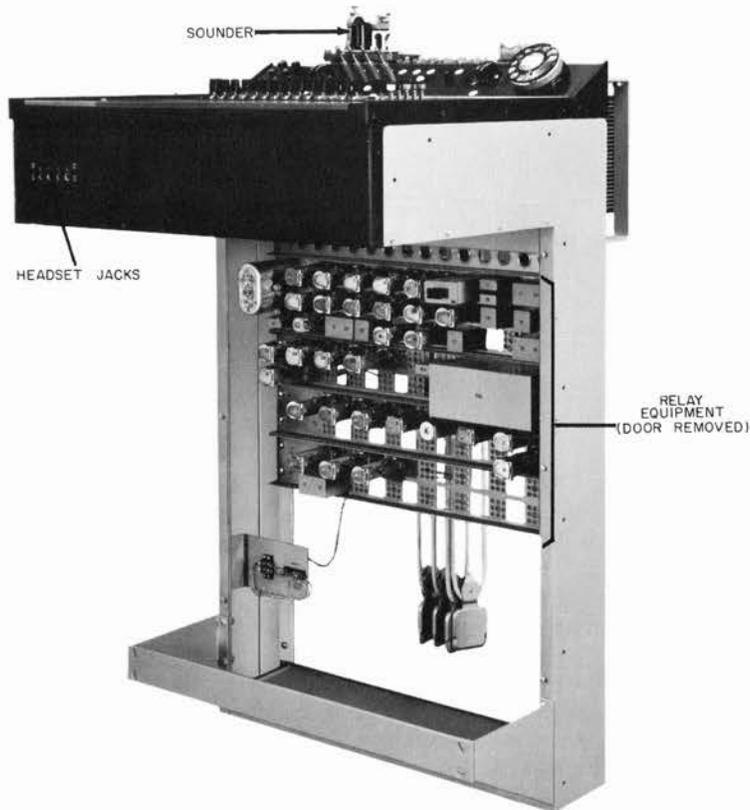
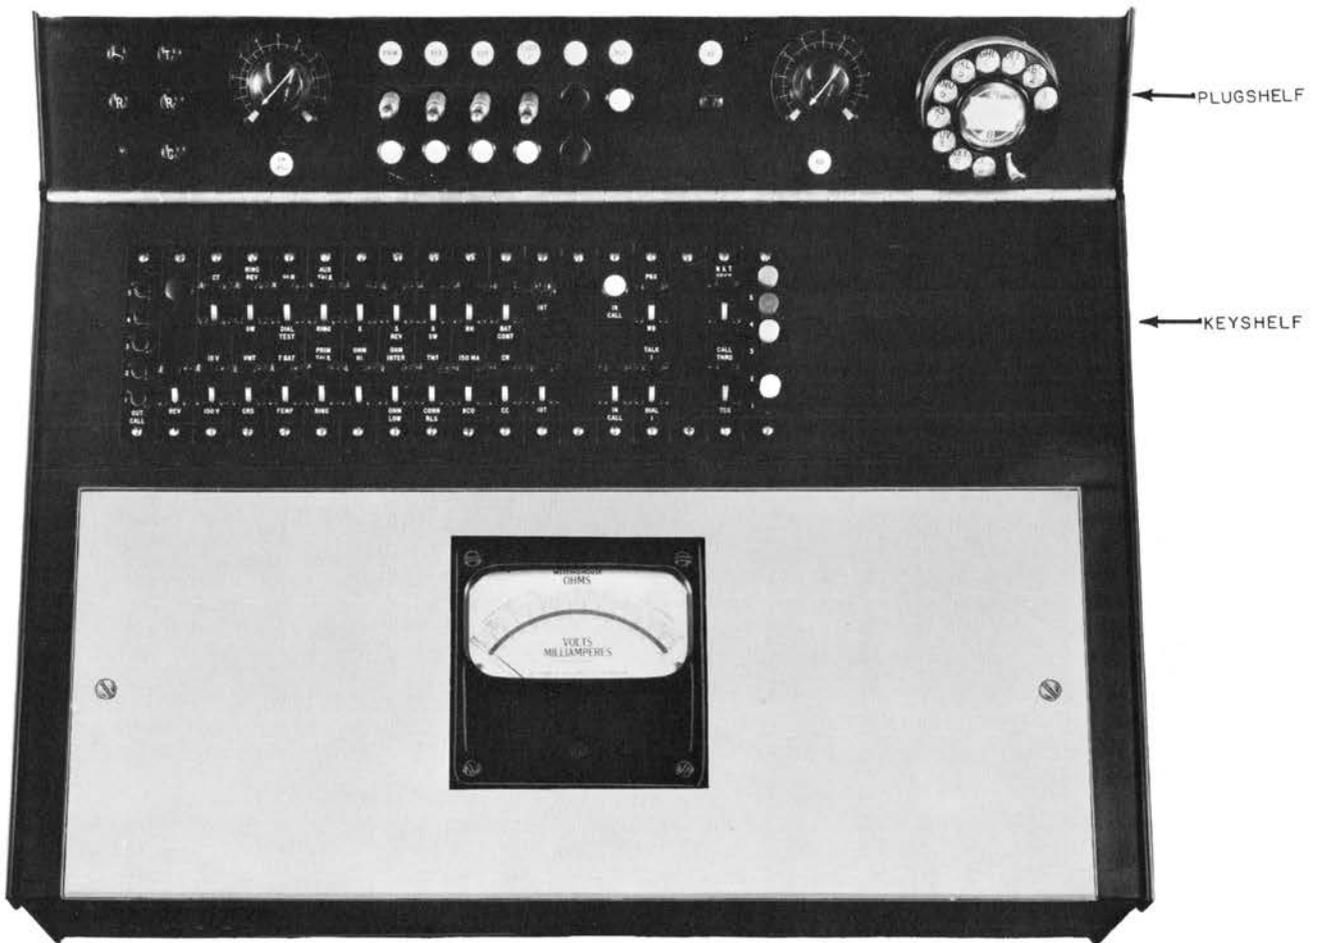

Figure 2. Type 180L Local Test Panel lower unit.
Figure 3. View of keyshelf and plugshelf of Type 180L Local Test Panel.
The lower unit, or attendant's console (figure 2), consists of a metal cabinet with a gray enamel finish. The top of the console is fitted with a plugshelf and keyshelf (figure 3) made of wood and covered with black phenolic fibre. The keyshelf mounts test keys and a volt-ohm-milliammeter. The plugshelf mounts test plugs and supervisory lamps of the primary, auxiliary, and sounder cord circuits, and plugs and supervisory lamps for the single-ended cord circuits (one or two circuits optional). Also mounted on the plugshelf are two rheostats associated with the volt-ohm-milliammeter, a dial, a night alarm key, a howler lamp, and two sets of binding posts. The testing circuit relay equipment mounts on the frame of the lower unit below the level of the keyshelf (figure 2). A door at the front of the console provides access to the relay equipment. Headset jacks are provided in duplicate and are located on the left side of the keyshelf front panel (figure 2).
a. Keyshelf. The keyshelf of the lower unit (figure 3) is 15-7/8" deep. The top portion mounts the test keys and lamps; the bottom portion mounts the volt-ohm-milliammeter. The designation and function of each key and lamp is described in section 3.3. The
b. Plugshelf. The plugshelf (figure 3) is inclined 30° above the plane of the keyshelf to aid in identifying the equipment mounted on it. Starting from the left the plugshelf contains two vertical rows of binding posts, the first row designated T and R, and the second row designated T, R, and G; rheostat VM ADJ (voltmeter adjustment); cord and lamp PRIM (primary test); cord and lamp AUX (auxiliary test); cord and lamp SDR (sounder test); cords and lamps CORD 1 and CORD 2; howler lamp HLR; night alarm turn key NA; rheostat RH and the dial. The function of each plugshelf component is described in section 3.2.
The Type 180L Local Test Panel lower unit contains a sounder (figure 2) which may be energized by an outside repairman to signal the test attendant over a line connected to the sounder circuit. Exchange dial tone is associated with this circuit as an outgoing signal to a repairman who may need the tone to help him locate a particular pair, etc. A key designated S (sounder) is provided on the keyshelf to allow the sounder test circuit to be connected to the auxiliary test cord. A separate cord for the sounder is provided for those cases where the use of key S would tie up the auxiliary testing circuit.